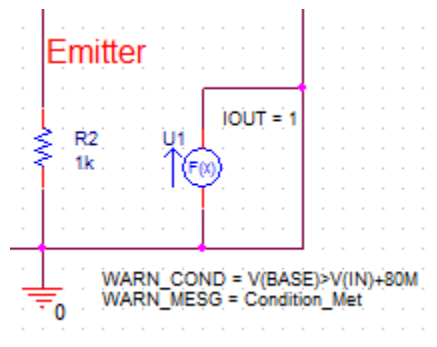

Figure 2-41: CURRENT_GEN placed and configured
65. Clean up the schematic so that it resembles Figure 2-41.